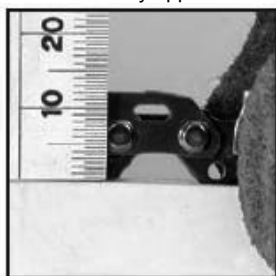

Fig.7
6. The correct tension is reached when the chain in the middle of the bar can only be raised by approximately 3-4 mm.(fig.7)